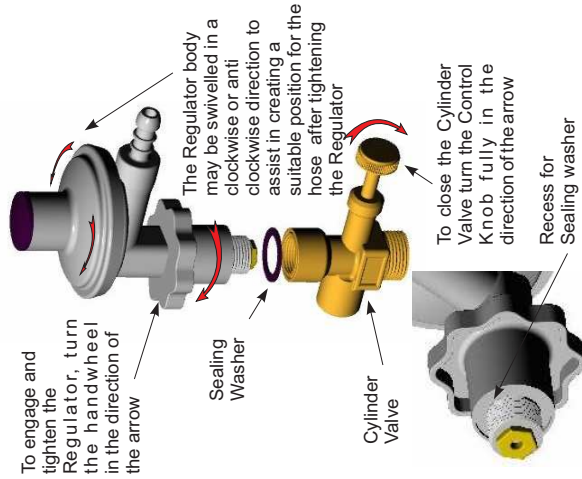

Fig. 6
- If using a gas cylinder with less than 9 kg gas capacity, it will be fitted with gas control valve with a vertical outlet. This has a G3/8 right hand thread. See Fig.6 for connection details